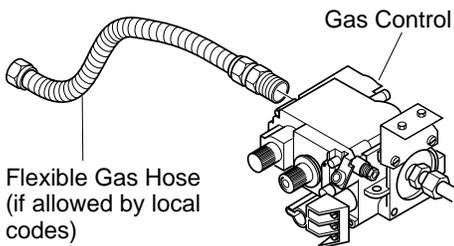

Figure 11 - Attaching Flexible Gas Hose to Heater Gas Regulator
1. Apply pipe joint sealant lightly to male threads of gas fitting. Connect approved flexible gas hose to inlet side of gas control (see Figure 11, page 11). **IMPORTANT:** Hold gas fitting with wrench when connecting flexible gas hose.